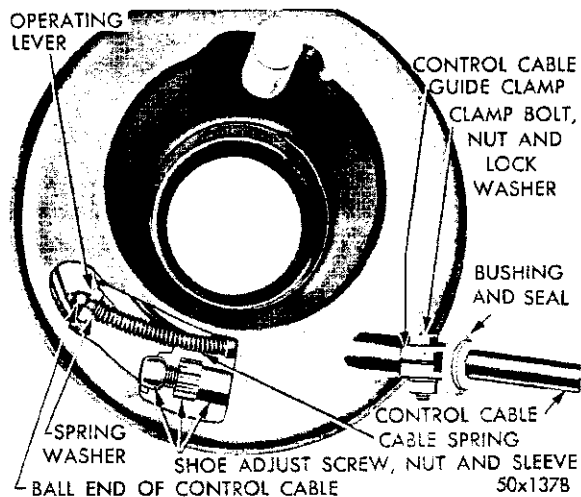

Fig. 34—Internal Expanding Parking Brake (Rear View)
(4) Remove the brake shoe adjusting nut cover plate and loosen cable guide clamp bolt on brake support (Fig. 34). Disengage ball end of cable from operating lever and remove cable from the brake support.
(5) Remove the brake support grease shield